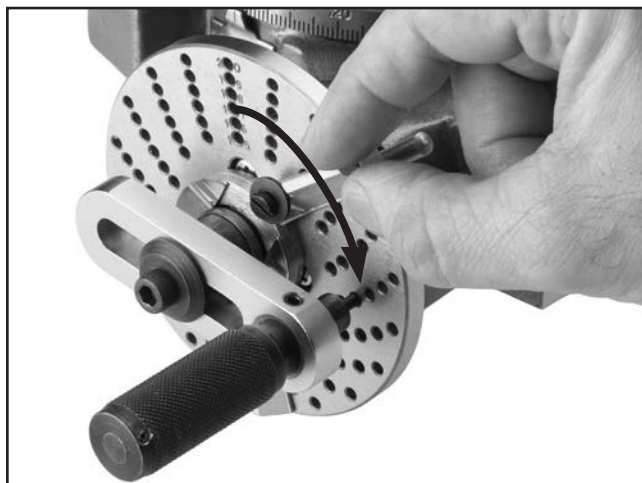

Figure 29. Rotating sector arm to rest against new position.
12. Rotate sector arm so arm rests on pin once again (see **Figure 29**).